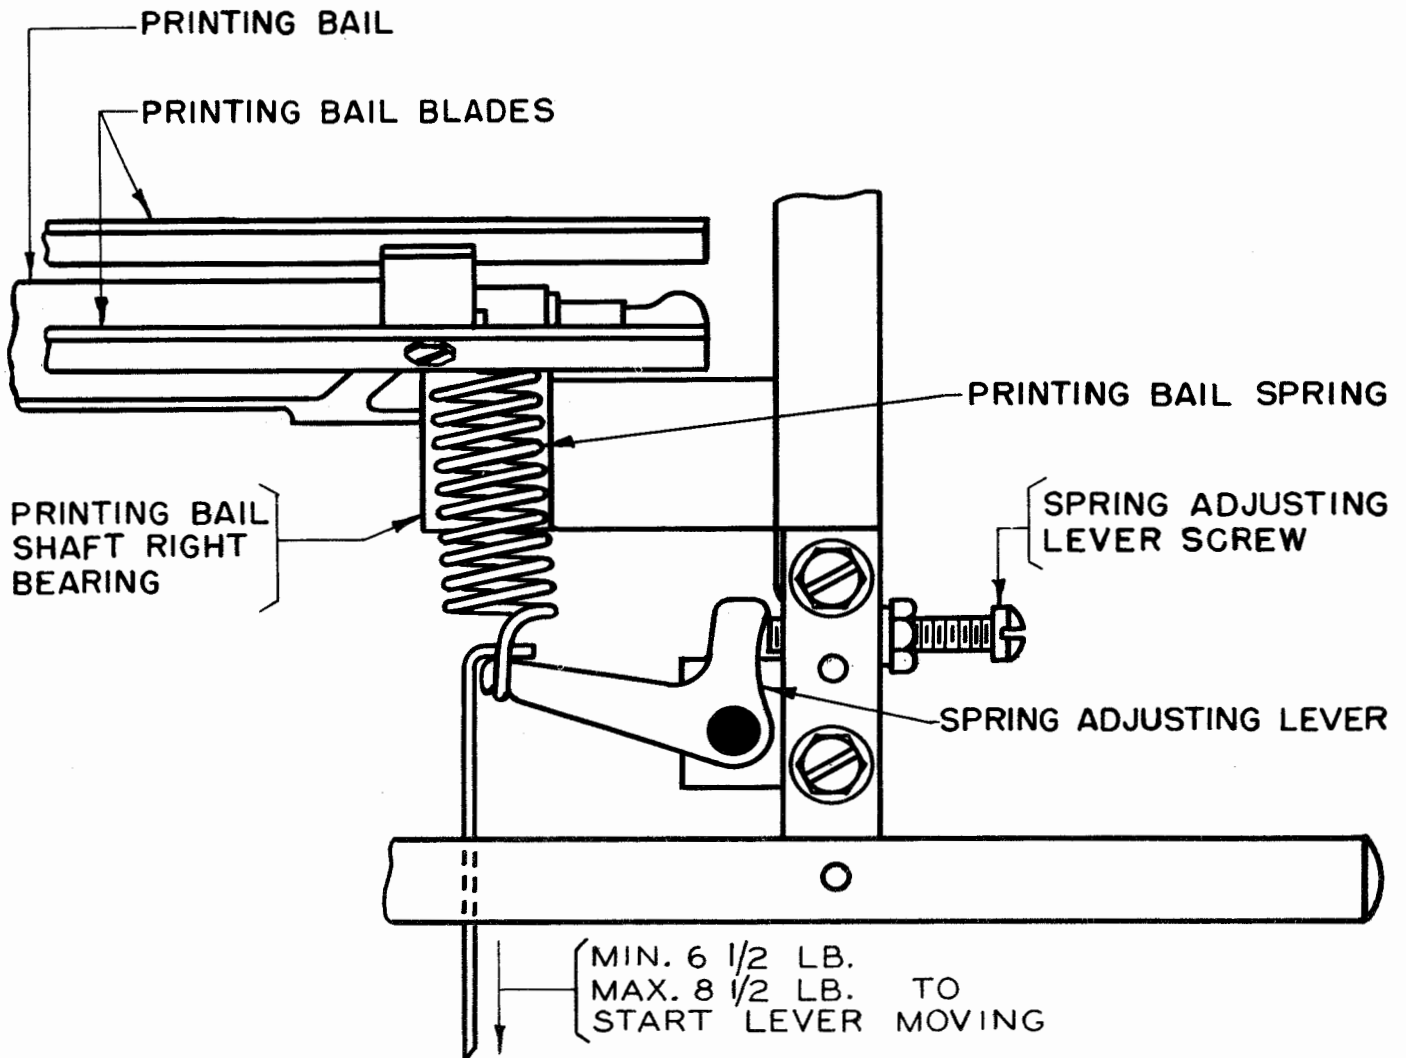

Figure 29
toward the right and the printing-bail spring unhooked. See Figure 29.
2.49 Printing-bail Spring should have a tension of minimum 6-1/2 pounds, maximum 8-1/2 pounds when the bail is in its extreme rear position. See Figure 29.